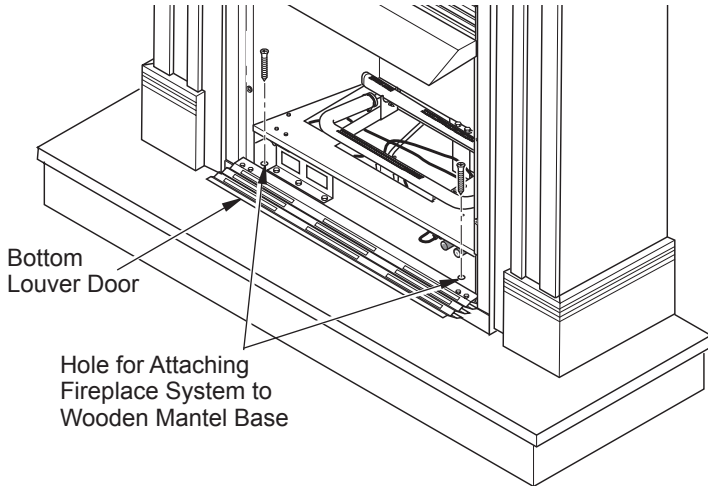

Figure 10 - Attaching Fireplace to Mantel and Mantel Base
6. **Fireplace with louver door:** Lower bottom louver door. Use two screws provided in hardware package and attach fireplace to wooden base (see Figure 10). Close louver door
4. **Fireplace with louver door:** Lower bottom louver door. Use two screws provided in hardware package and attach fireplace to wooden base (see Figure 10). Close louver door